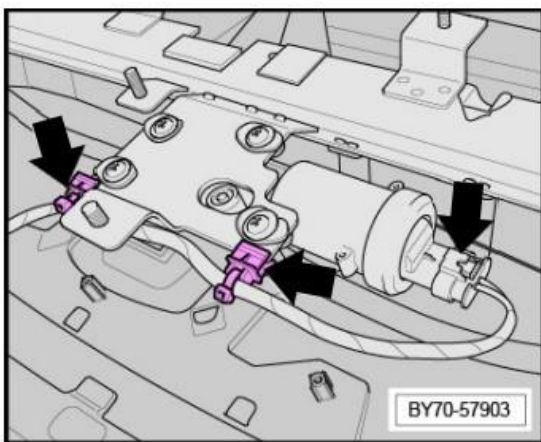

Figure 10
- Referring to Figure 10 - Disconnect the electrical plug and unclip the harness from the rear parcel shelf at the locations shown